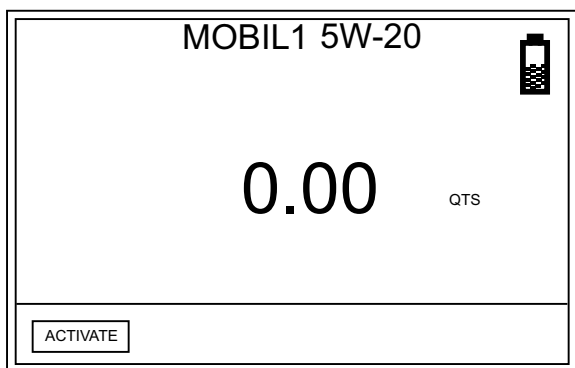

FIG. 30
2. The Manual Dispense Screen (FIG. 30) displays. Press the center ENTER button on the meter's keypad to select ACTIVATE. You will hear a loud click at the meter indicating it is now ready to begin dispensing fluid